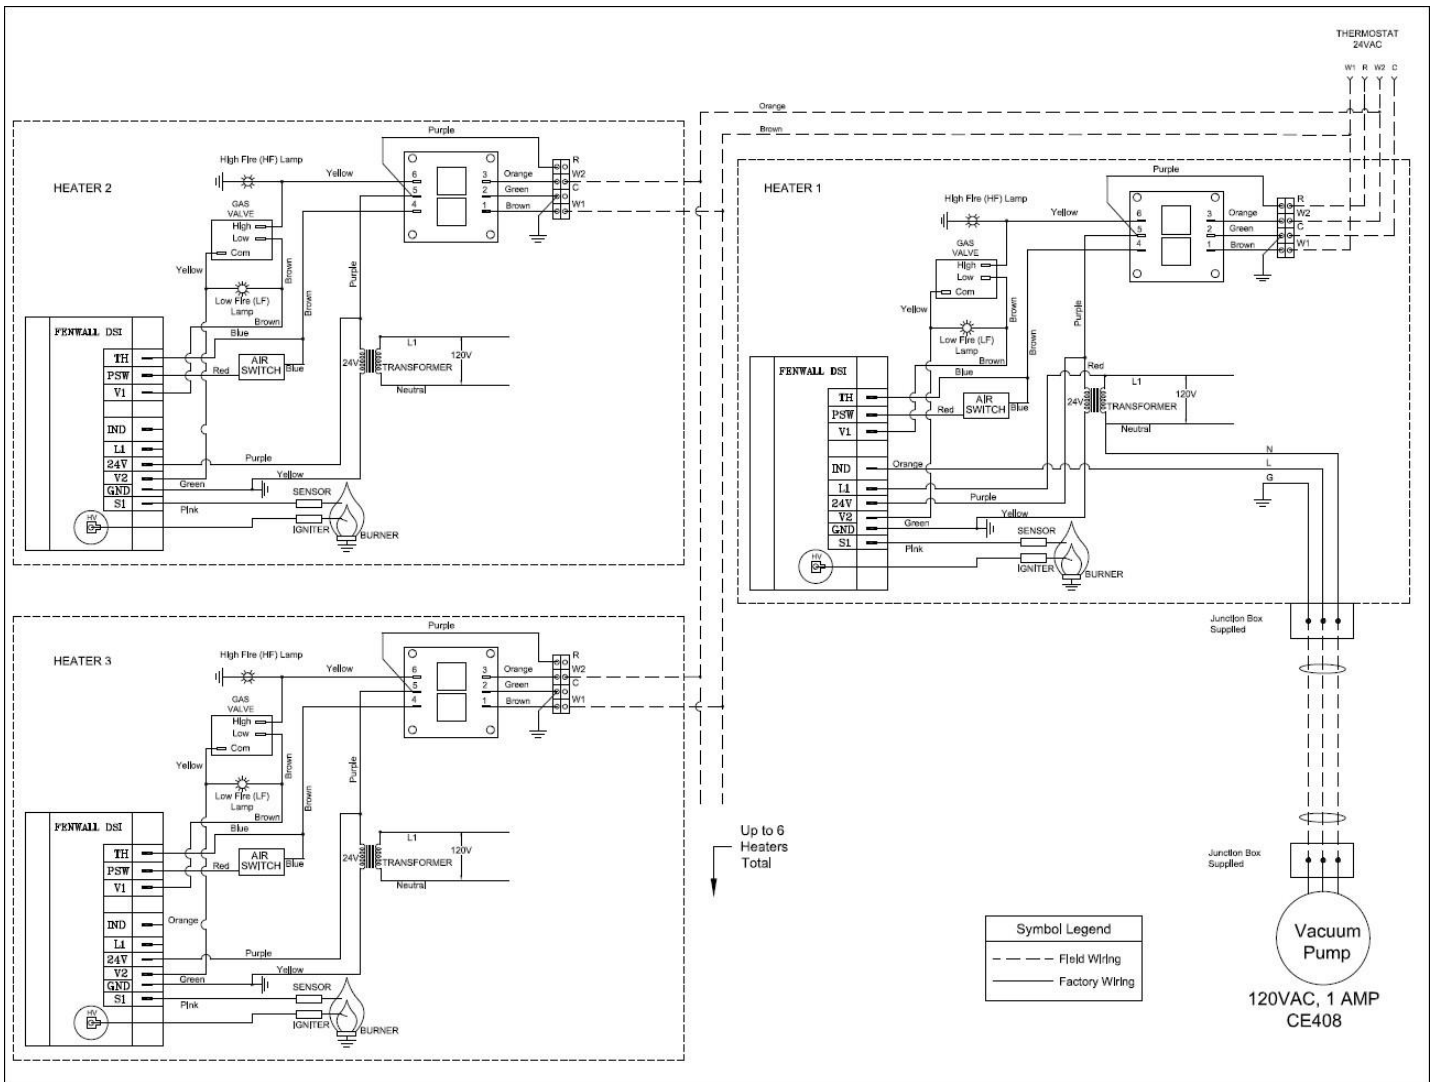

Figure 29: Wiring Diagram – Powering vacuum pump motor (CE408) from the master heater (heater #1)
The vacuum pump can be energized from one of burner boxes, see Figure 29. In this case one of the burner boxes will be configured as a master burner box. Additional wires are supplied with a vacuum pump connecting kit (VE172). One junction box will be installed on the burner housing and another junction box will be installed on the vacuum pump collar. The installer will add four wires inside the burner box and provide three of them to the junction box.
3. Attach Flexible Metal Conduit and connect Vacuum Pump wires to corresponding wires in Burner Box using Figure 29 Wiring Diagram.
4. Route Thermostat control wires through provided Grommet and connect to Terminal Block using Figure 29 Wiring Diagram.